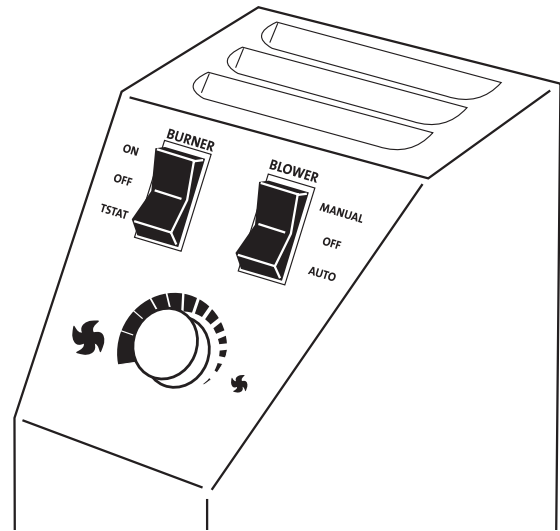

Figure 40. Burner Switch and Optional Blower Controls
1. Once the pilot is lit, burner operation is controlled by the rocker switch located at the left rear corner of the stove. Use the T-STAT position for the optional thermostat or remote control functions. See fig. 40.